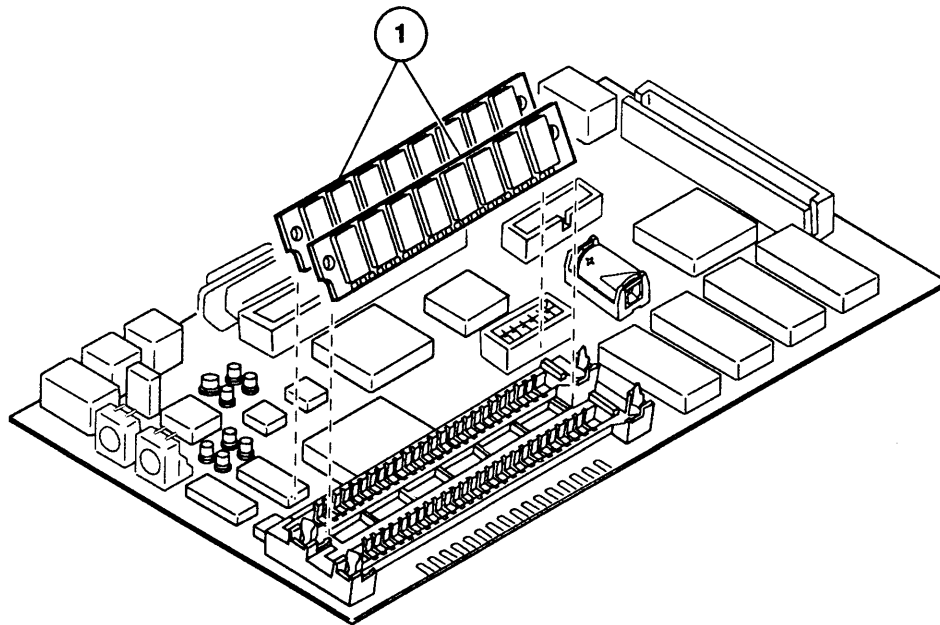

Figure 3 DRAM SIMMs—Macintosh Classic II only
- IPL.5 DRAM SIMMs – Classic II Only (Figure 3)
□ DRAM SIMMS – CLASSIC II ONLY (Figure 3)